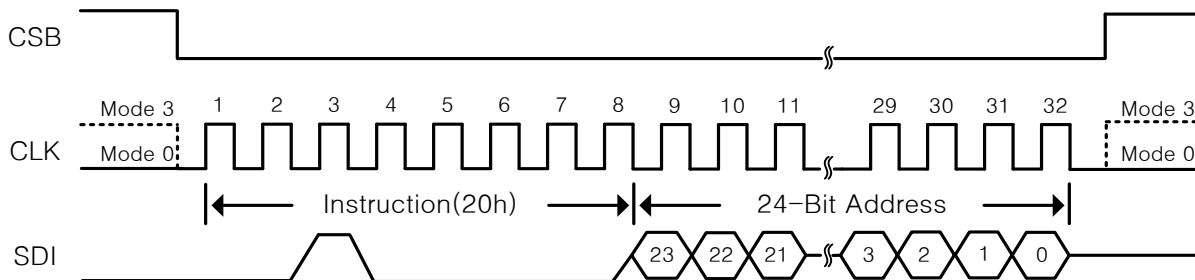

Figure 4. Sector Erase Instruction Sequence Diagram
The Sector Erase (SE) instruction is entered by driving Chip Select (CSB) low, followed by the instruction code, and three address bytes on Serial Data Input (SDI). The instruction sequence is shown in Figure 4.